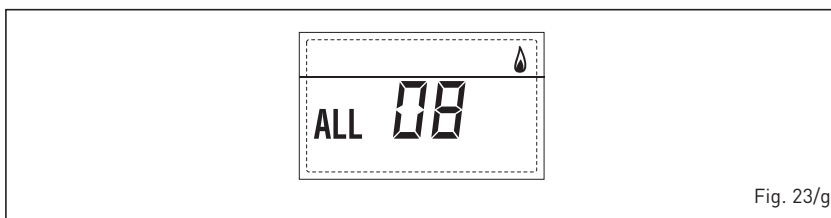

Fig. 23/g
**- WATER CIRCULATION ERRORS ALARM 09 (fig. 23/h)**